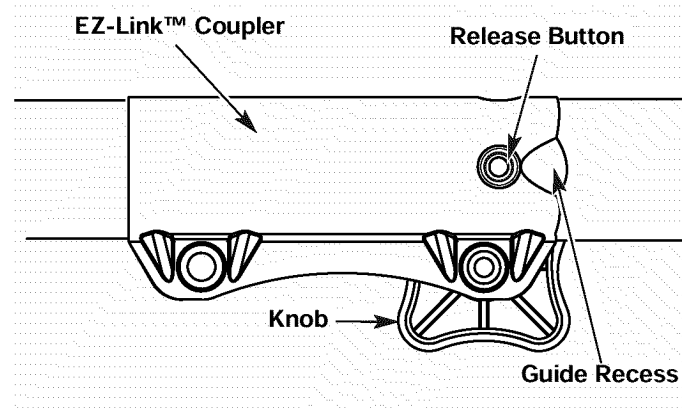

Fig. 10
1. Turn the knob counterclockwise to loosen (Fig. 10).
2. Press and hold the release button (Fig. 10).
**NOTE:** Aligning the release button with the guide recess will help installation (Fig. 10).